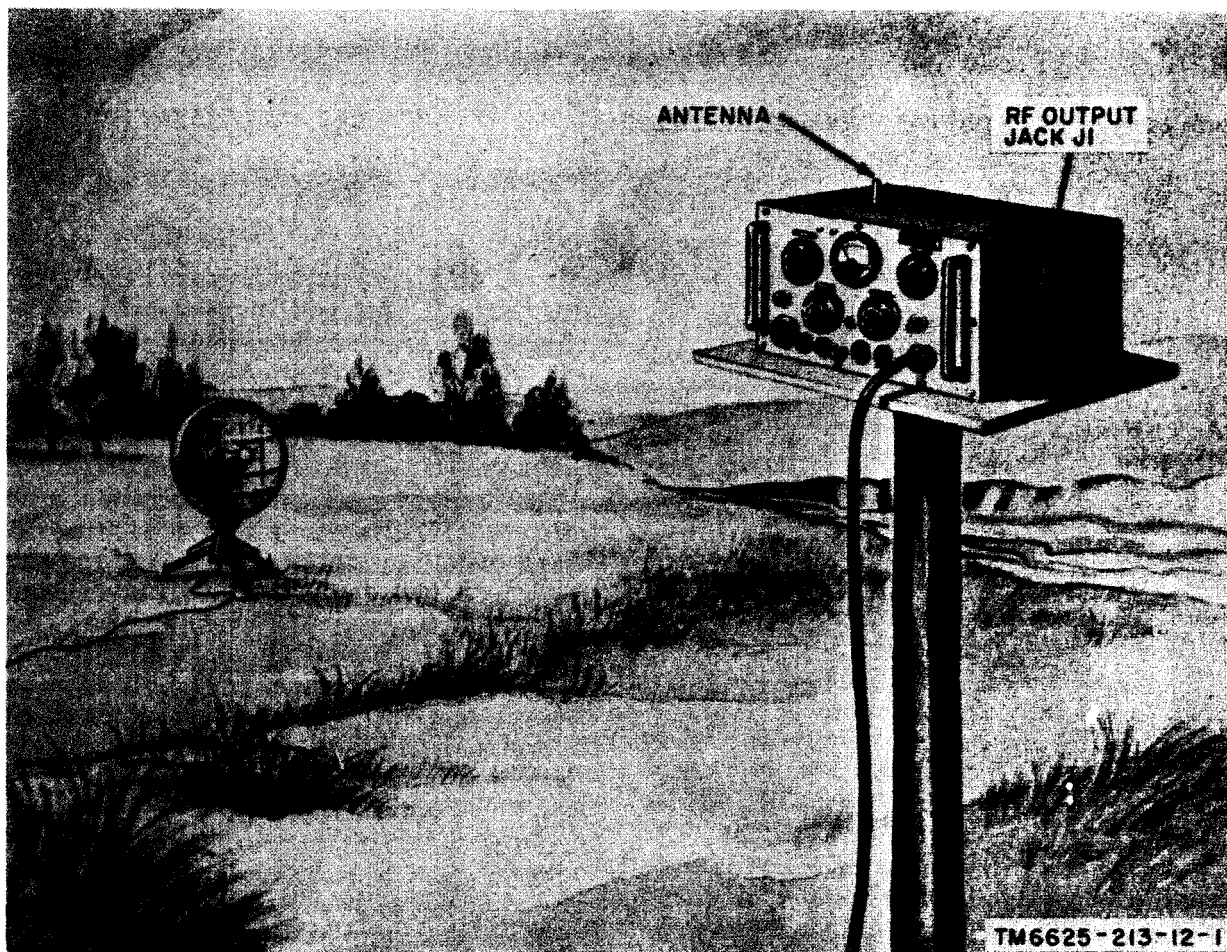

Figure 2. Test Set TS-538(*)/U in use.
(2) Measure the sensitivity, bandwidth, and tracking accuracy of Rawin Set AN/GMD-1(*).
b. Test Set TS-538(*)/U may also be used for similar purposes with any transmitter and/or receiver that operates within its frequency range (para 4). Figure 2 shows a typical application.